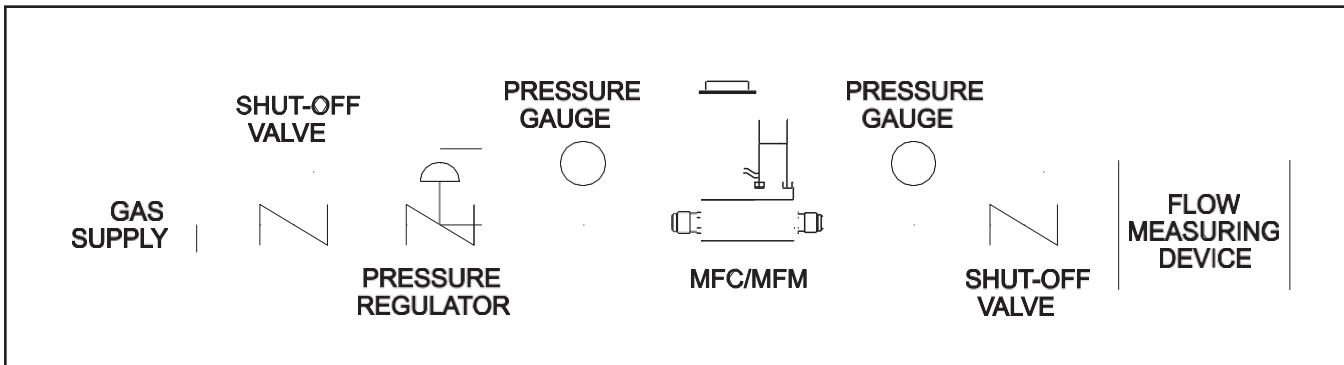

Figure 4-1 Bench Troubleshooting Circuit
1. Establish a proper connection between the Brooks SLAMf Digital Series Mass Flow Meter or Controller (using Figure 4-1 as a reference). Switch on the power and allow the instrument to warm-up for 45 minutes. In case of a controller model, adjust the setpoint to zero. Do not connect the device to a gas source yet. Observe the output signal and, if necessary, perform the zero adjustment procedure (See Section 3, Zeroing Function. Zeroing). If the output signal does not zero properly, please contact Brooks Instrument.